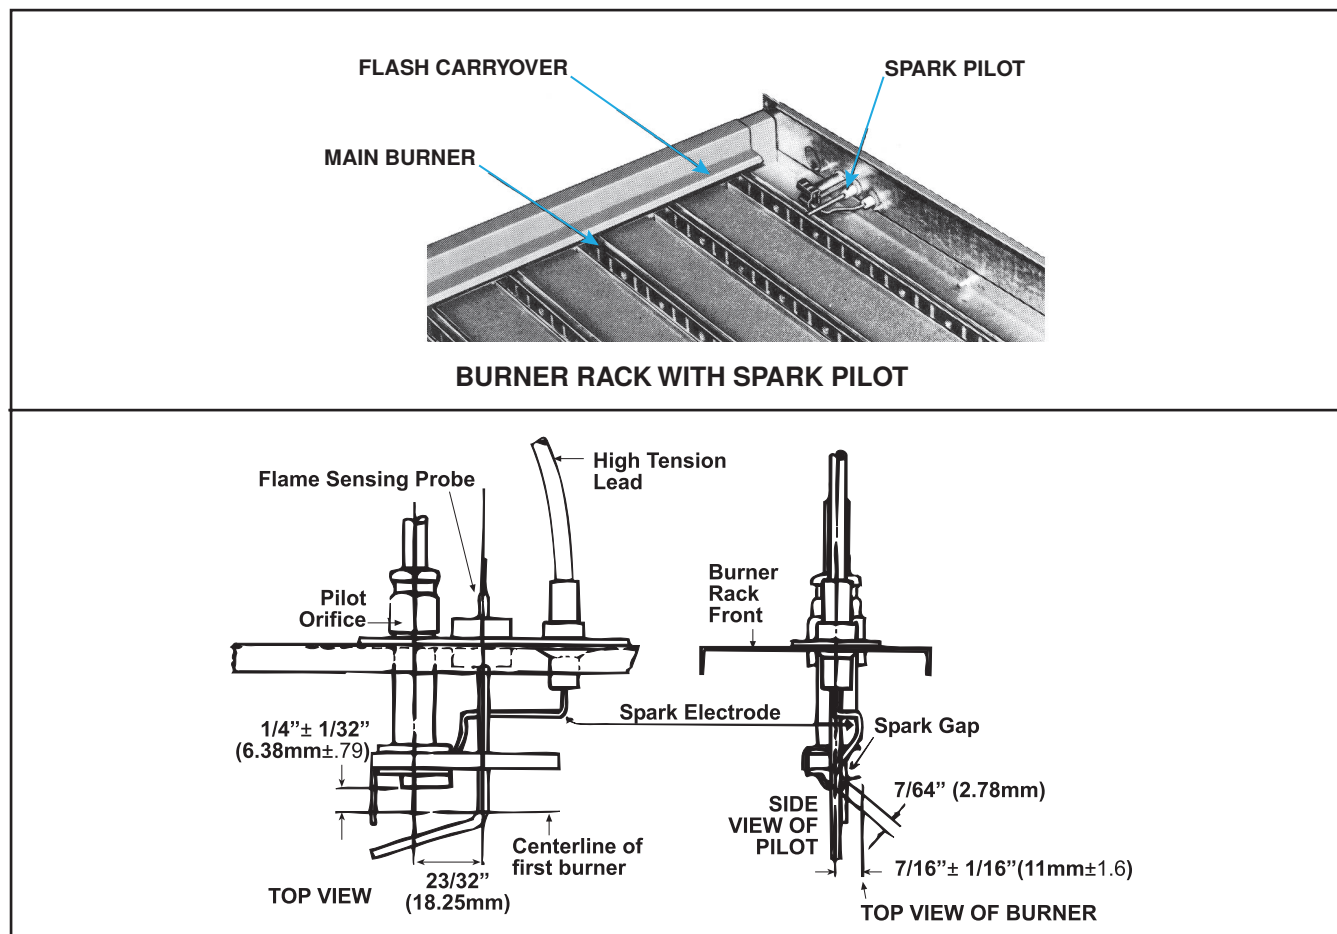

Figure 22. Spark Pilot
The horizontal pilot is located in the control end of the burner rack and is accessible after the control compartment panel has been removed. All pilots are target type with lint-free feature (see Figure 22). Pilot gas pressure should be the same as supply line pressure (refer to Gas Supply Pressure section). If required, adjust the pilot adjustment screw in the control valve body so that pilot flame length is approximately 1-1/4 inches (32 mm).
- c. Verify that pilot spark gap (see **Figure 22**) is approximately 7/64 inch (2.78 mm).